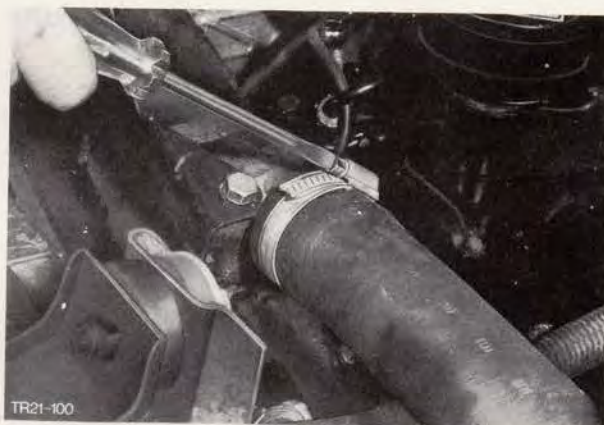

Fig. 38. Fit upper radiator hoses and secure
42. Replace lower and upper radiator hoses and secure, Fig. 38.